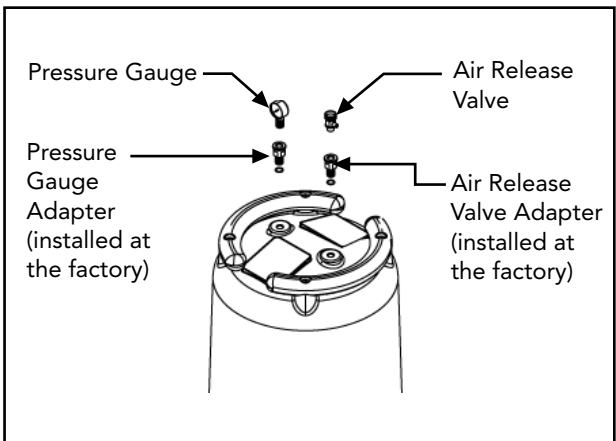

Figure 3- Pressure Gauge and Pressure Release Valve
4. Wrap teflon tape around the threads on the pressure gauge and install it into the threaded adapter on top of the filter tank (see Fig. 3).
5. Wrap teflon tape around the threads on the air release valve and install it into the threaded adapter on top of the filter tank (see Fig. 3).